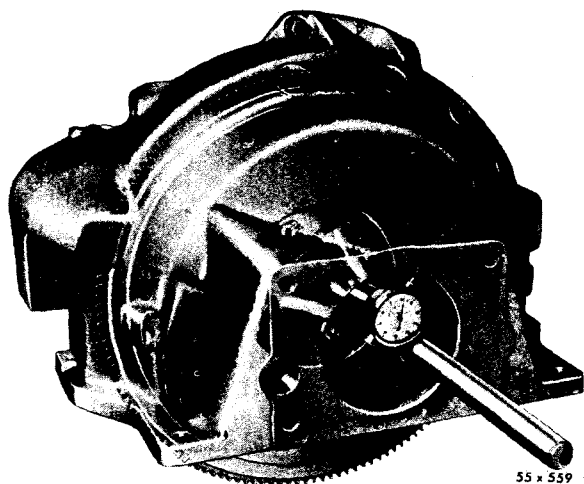

Fig. 8 — Checking Clutch Housing Bore, Using
- (1) Inspect the housing face, where it contacts the rear of the engine block, for particles of dirt and burrs. Remove burrs with a file and clean both surfaces.
- (2) Start the dowel pins in the block from the front end so they protrude beyond the machined face of the engine block and install the clutch housing. Install clutch housing to block cap screws, making them just snug enough so the housing can be shifted if necessary by tapping with a mallet.
- (3) Install fixture Tool C-870 to the flywheel attaching bolts (Figure 8) and install the
indicator (Tool C-435 or Tool C-430), as shown in Figure 8. Rotate the crankshaft and check the inside diameter of the housing bore. It should not vary more than .005 inch to one complete revolution of the crankshaft. If alignment is necessary, remove the dowel pins and tap the housing until it comes within the specified tolerance. After obtaining correct alignment, tighten the housing cap screws to 35 foot-pounds torque.